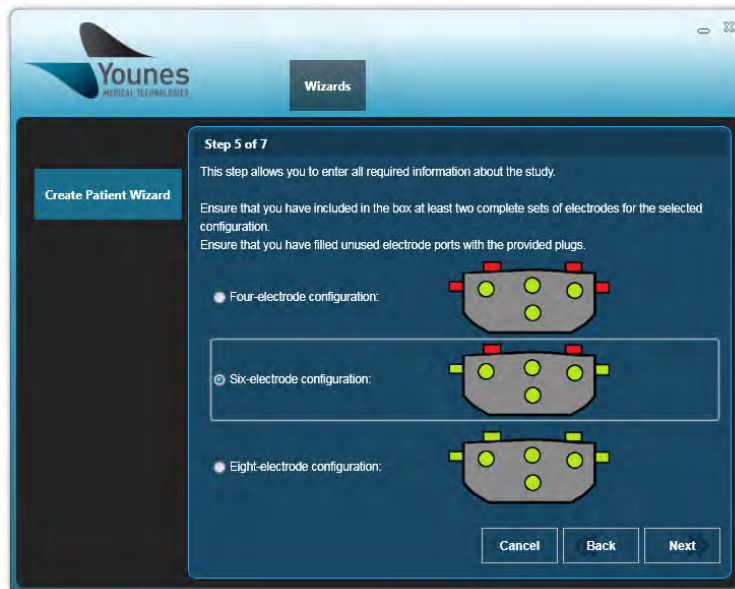

Figure 125 – Windows PC Prodigy Application Electrode Configuration Screen (Create Patient Wizard)
13. The three electrode configurations are displayed on the screen, as shown in Figure 125. Select the electrode configuration that has been prescribed to the patient and then select “Next.”